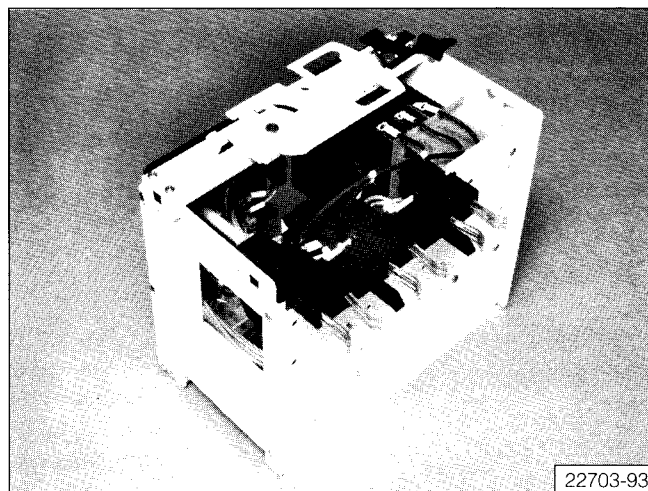

Figure 28: The Stab Assembly
5. **Stab Fingers:** (Figure 28) Inspect stab fingers as instructed under Stab Fingers Section and Vertical Bus Section and replace if necessary.